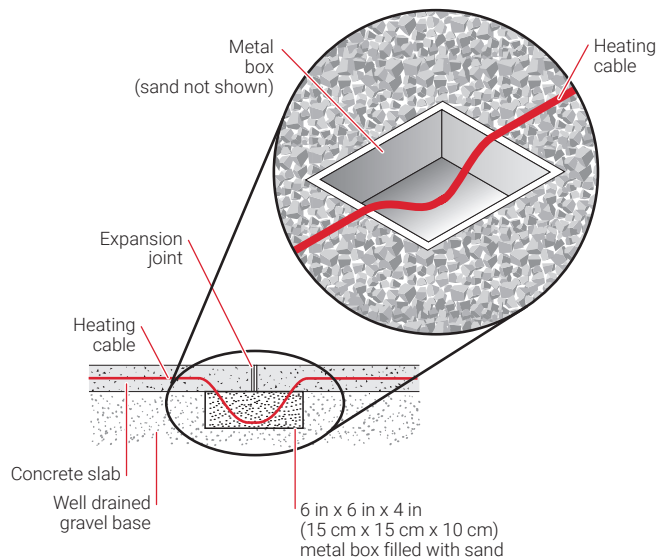

Fig. 6 Crossing expansion joints
3. Expansion joints are placed where a concrete slab abuts a structure, such as a building, a slab, or a foundation, etc. Since the reinforcement does not cross expansion joints, differential movement will occur between the slab and the adjoining structure. **Avoid crossing expansion joints with the heating cable.** If this is not possible, expansion joints can be crossed using a sand filled metal box as shown in Fig. 6.